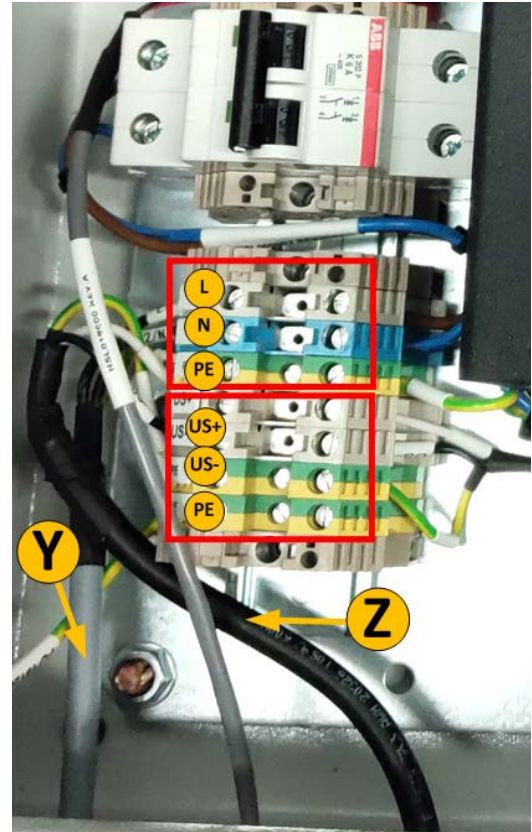

Figure 5-25: Ultrasonic Cleaner Module Terminals
- Step 2.** Connect the Ultrasonic Cleaner **(Z)** cable's White wire to the **US+** port on the Ultrasonic Cleaner Module terminal in **Figure 5-25**.
- Step 3.** Connect the Ultrasonic Cleaner cable's Black wire to the **US-** port on the Ultrasonic Cleaner Module terminal in **Figure 5-25** to the right.